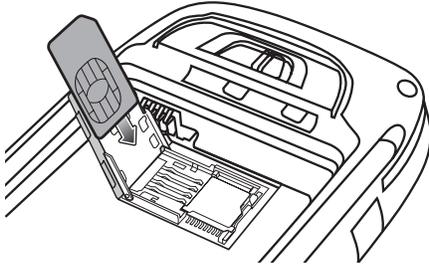

Figure 1-4 Inserting the mini-SIM Card
3. Insert the mini-SIM card, as shown in Figure 1-4, with the cut edge of the card facing out and the contacts facing down.